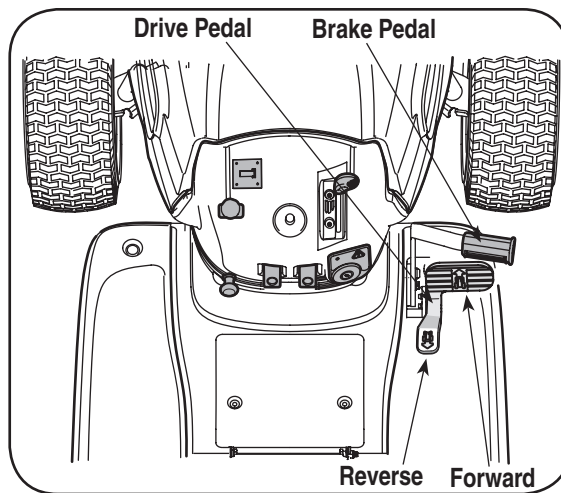

Figure 4-6
3. To travel FORWARD, slowly depress the upper portion of the drive pedal forward until the desired speed is achieved. See Figure 4-6.
4. To travel in REVERSE, check that the area behind is clear then slowly depress the lower portion of the drive pedal with the ball of your foot (NOT your heel) until the desired speed is achieved. See Figure 4-6.